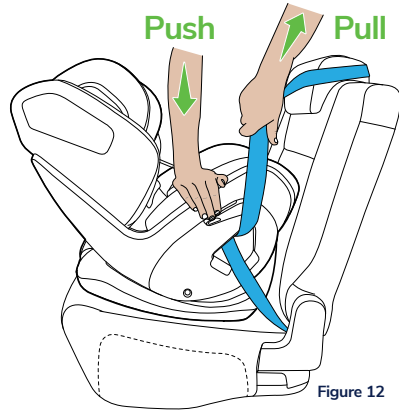

Figure 12
Step 1. Press the restraint down firmly into the vehicle seat (Figure 12).